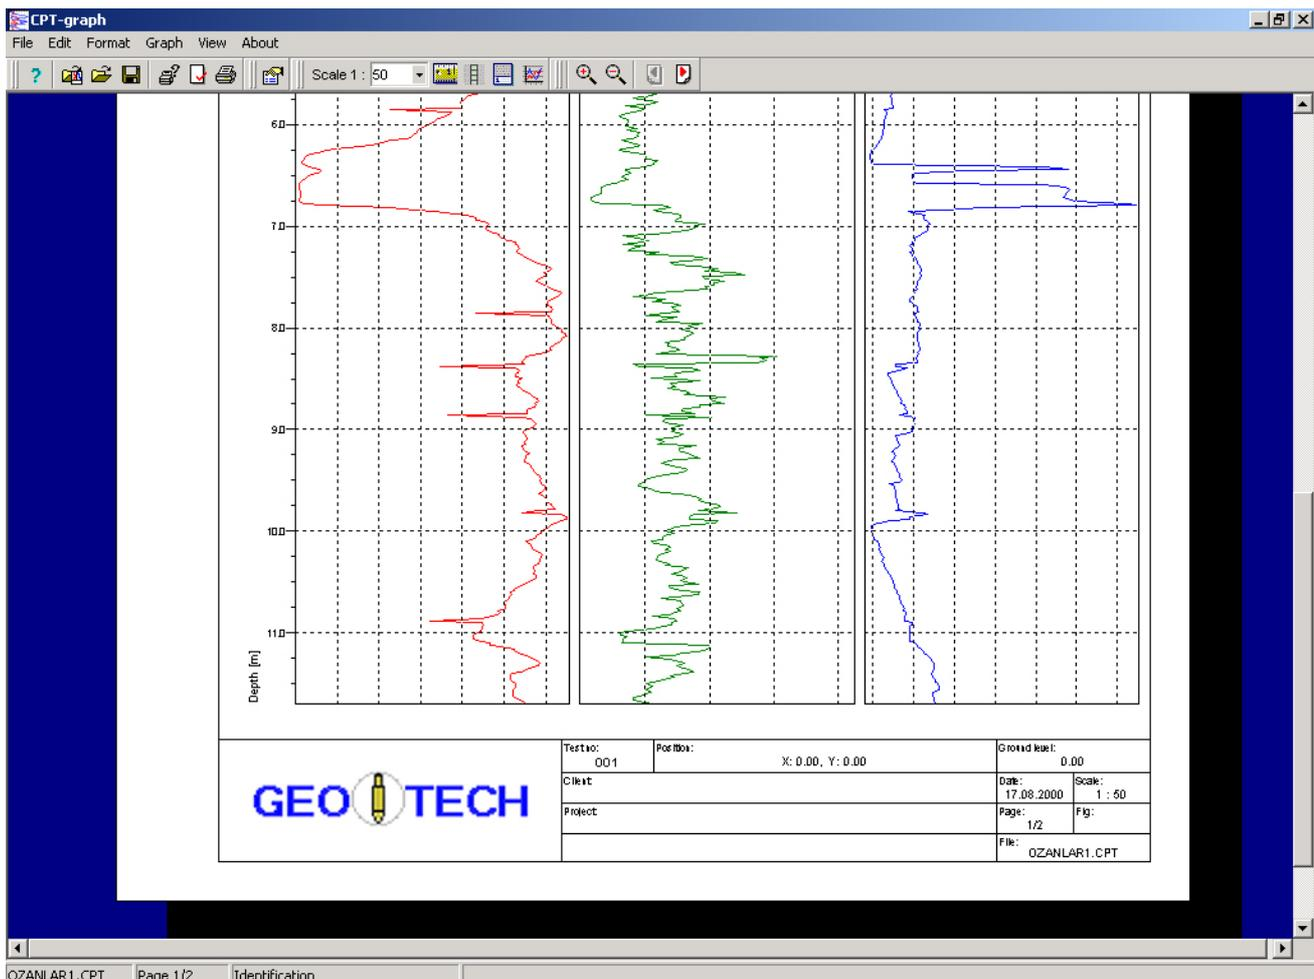
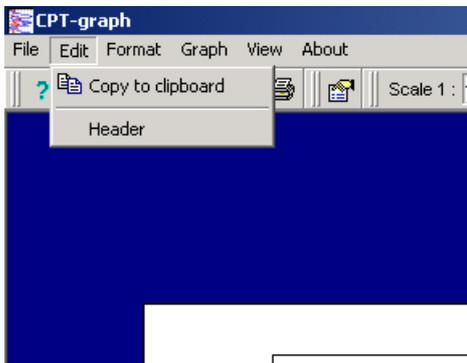
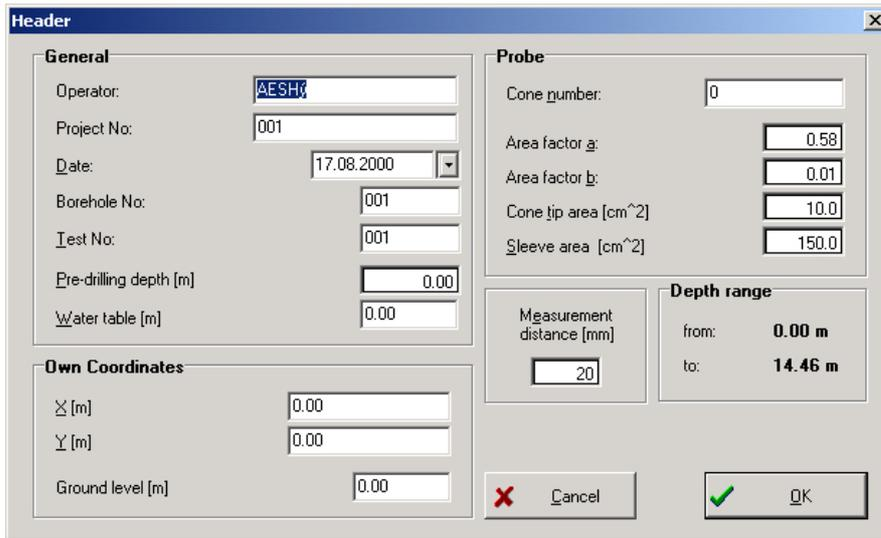
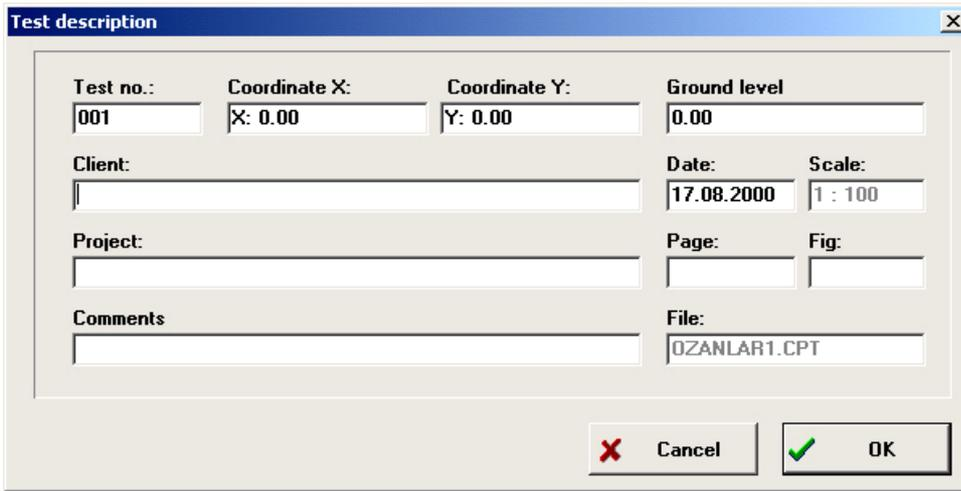

Fig. 4-4: Display of chosen channels of a CPT file
Fig. 4-6: File Menu
Fig. 4-7: Header and test option
Fig. 4-18: Test Description
2. Select up to four channels to be displayed, the depth unit (meters or feet), the depth reference and whether the water table should be shown. The graphs will be shown when pressing OK (Fig. 4-4).
The **Header** information in the \*.cpt, ASCII comma separated file (Chapter 6), displayed at the foot of the graph (Fig. 4-4) can be edited by accessing Header under Edit Menu (Fig. 4-6) or under Test Description (Fig.4-18). The panel (Fig. 4-7) picks up the information provided before the test, in the Cone Database, (Fig. 2-) and in Test Options (Fig. 3-1)
5. **Test Description** as seen in the graph header (Fig.4-18) can be modified when saved as a \*.cpd, \*.gef or \*.ags file